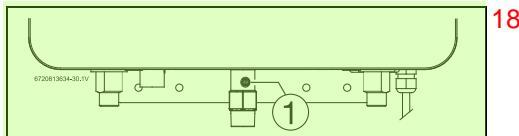

Fig. 35 Gas pressure test port 19
- ▶ Locate the inlet gas pressure test port (see Fig. 35).
- ▶ Loosen the screw inside test port fitting (do not remove) and connect the manometer tube to the test port (see Fig. 35).